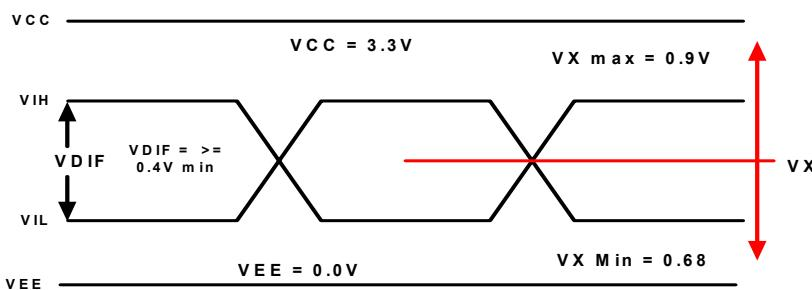

Figure 2. HSTL Differential Input Waveform Definitions
8. $V_X(\text{AC})$ is the crosspoint of the differential HSTL input signal. Normal AC operation is obtained when the crosspoint is within the $V_X(\text{AC})$ range and the input swing lies within the $V_{DIF}(\text{AC})$ specification. Violation of $V_X(\text{AC})$ or $V_{DIF}(\text{AC})$ impacts the device propagation delay, device and part-to-part skew. Refer to *Figure 2*.